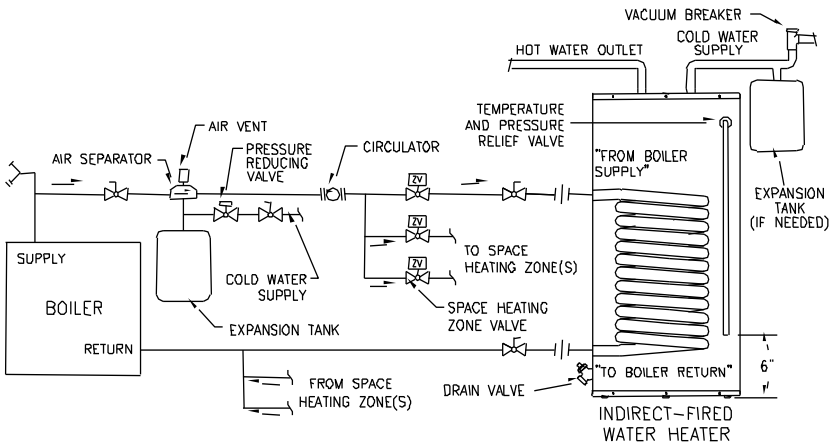

Figure 2 - Water Boiler Piping with Zone Valves
1. For a space heating system that utilizes ZONE VALVES, refer to Figure 2. The indirect-fired water heater connection labeled "FROM BOILER SUPPLY" should be piped to the boiler supply piping. Mount the circulator making sure the flow arrow points toward the water heater. The use of shut-off valves and unions are recommended for future service convenience. The use of an air separator and vent is recommended to eliminate air in the system. Pipe and fittings between the boiler and indirect-fired water heater must be $\frac{3}{4}$ " diameter or larger.